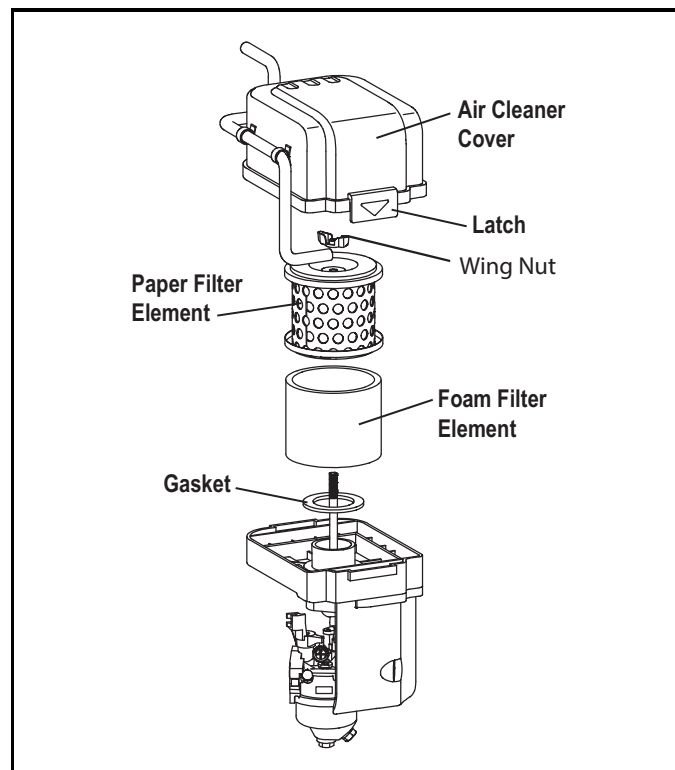

Figure 6-8. Service the Air Cleaner
1. Pull on air cleaner cover latch and remove cover (Figure 6-8).